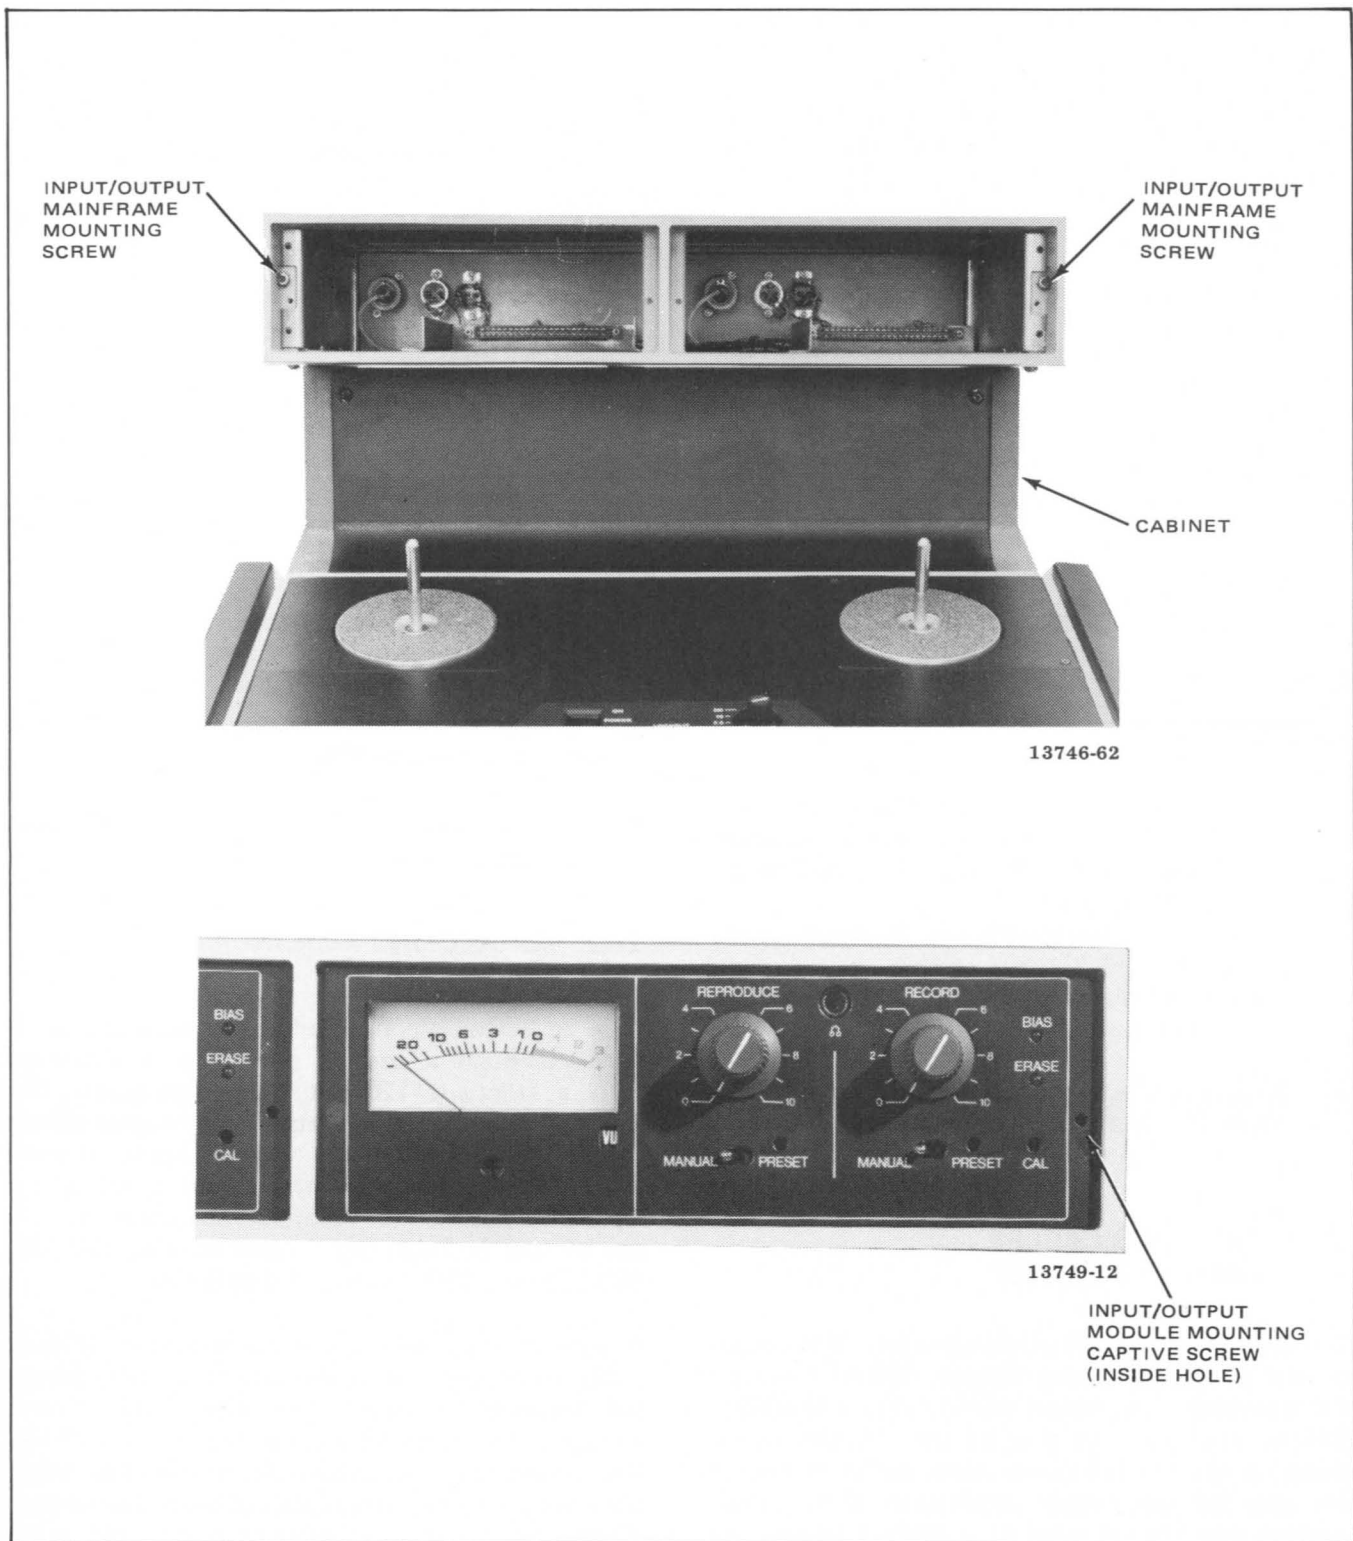

Figure 2-10. Input/Output Assembly Mounting
1. Slide the input/output mainframe assembly into the cabinet enclosure as shown in Figure 2-10.
2. Secure with two 10-32 X 1/2 socket-head screws as shown in Figure 2-10.
3. Slide input/output module(s) into mainframe assembly and secure with captive screw (Figure 2-10).
3. Slide input/output module(s) into mainframe assembly and secure with captive screw(s) shown in Figure 2-10.